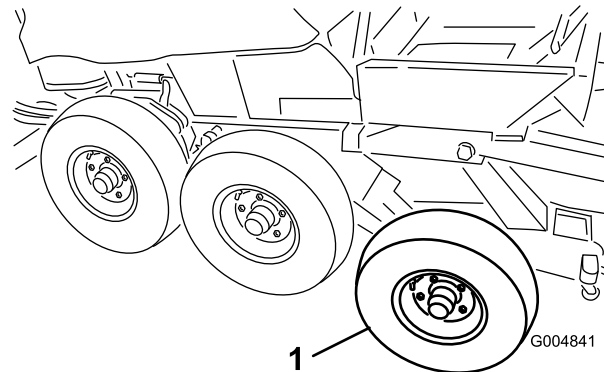

Figure 53
1. Washer & nut on the bogie pivot stud (2)
17. Remove the front and center tires from the winter assembly (Figure 53).